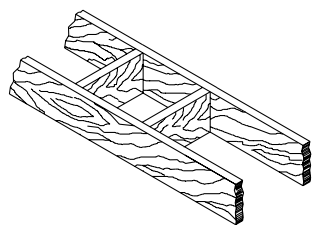

Figure 27
1. Cut and frame the holes in the ceiling, floor and roof where the chimney will pass (see **Figure 27**). Use a plumb-bob to line up the center of the holes. The sizes are indicated in **Table 2** for the floor and ceiling holes and **Table 3** (**Page 18**) for the roof holes.